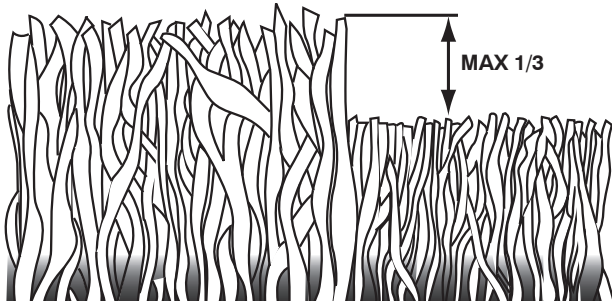

Figure 19
- For best results, adjust the lawn mower cutting height so that the lawn mower cuts off only the top one-third of the grass blades (Figure 19). If the lawn is overgrown it will be necessary to raise the height of cut to reduce pushing effort and to keep from overloading the engine and leaving clumps of mulched grass. For extremely heavy mulching, reduce your width of cut by overlapping previously cut path and mow slowly.